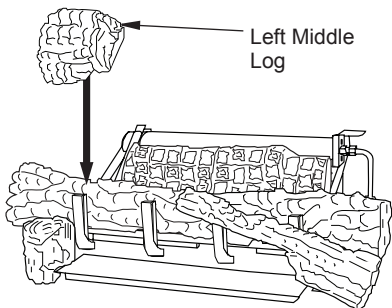

Figure 29 - Installing Left Middle Log
5. The left middle log (18" D-066, 24" & 30" D-040) has a groove on the bottom to sit on the chassis and has to sit on the tab on the back of the left front log as shown in Figure 29.